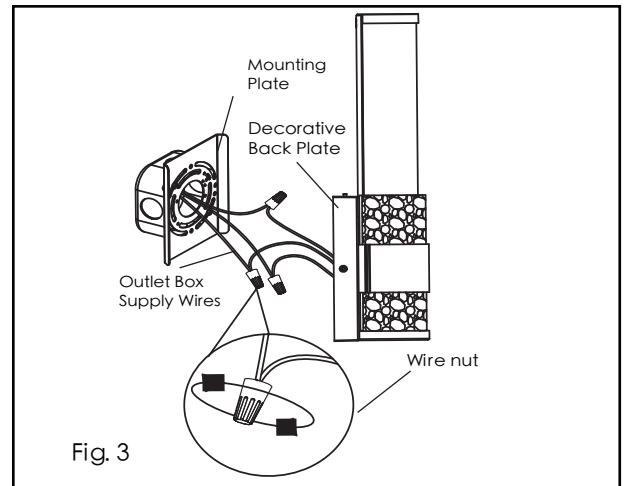

Fig. 4 Wiring guide
4. Follow wiring instructions Fig.3 and Fig.4